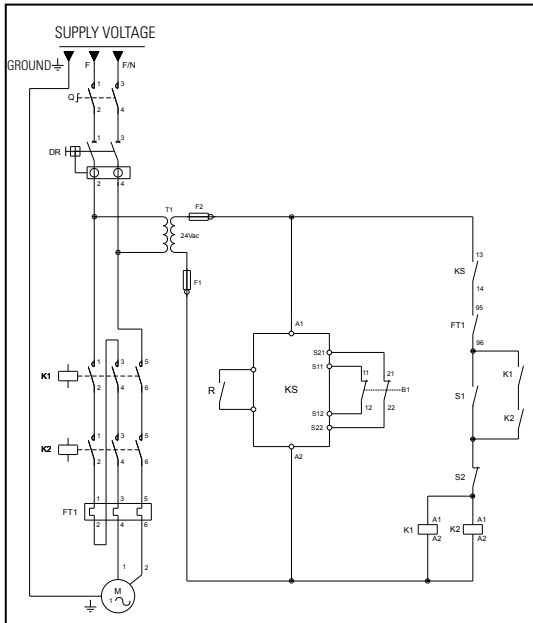

FIGURE 8.1- SINGLE-PHASE ELECTRICAL CONNECTION SCHEME
- The electrical wires must be dimensioned according to the motor power, electrical network voltage and distance from the energy source (orientations in Table 8.1) to the motor, connected to the voltage (V), as indicated on the tag on the electric motor or power cord.
- For safety and warranty of the electric motor, the orientation on Figure 8.1/8.2 must be followed. The non-compliance might cause the motor to burn out and warranty loss.
To protect the motor, the guidelines of Figures 8.1 and 8.3 should be followed.